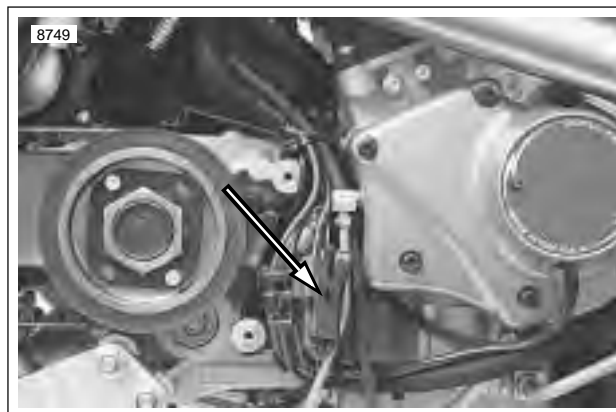

Figure 4-64. Cam Position Sensor Connector [14] (stator connector disconnected)
4. See Figure 4-64. Disconnect cam position sensor wiring at connector [14].